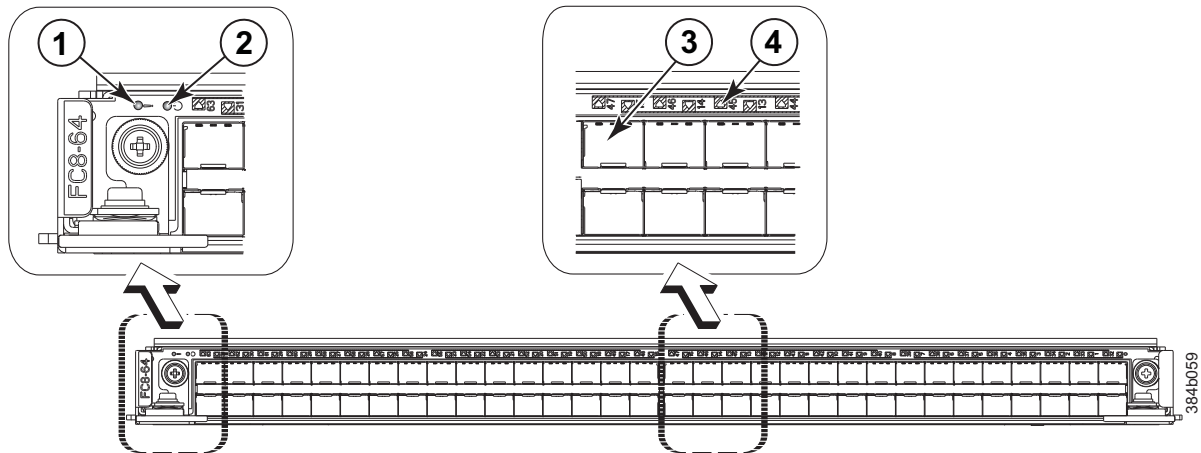

Figure 26. FC8-64 port blade
- Figure 26 on page 61 illustrates the FC8-64 port blade